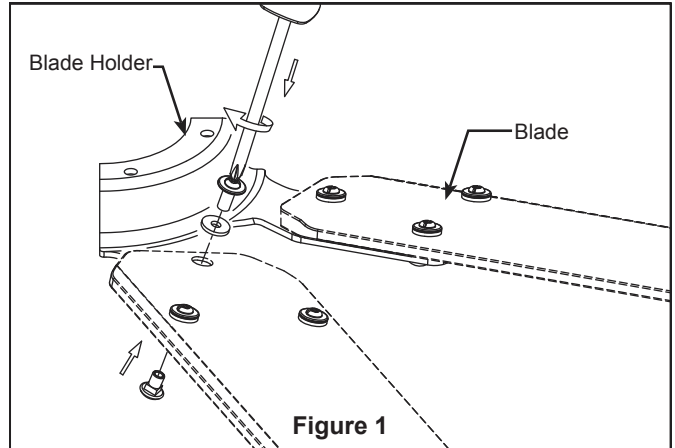

Figure 1
1. Lay the side of the blade holder on a flat surface with the inside of the blade holder facing up. Assemble the blade to the blade holder with the carriage nuts, flat washer, and screws. Make sure that the blades are fully seated against the blade holders and tighten screws. (Figure 1)